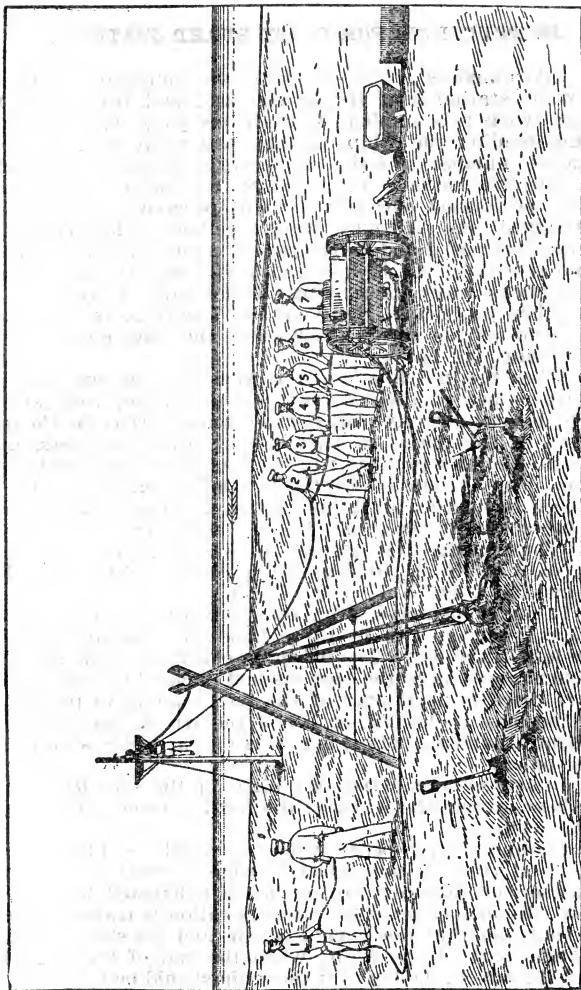

FIG. 14.—Man weather whip—haul ashore.
382. (1) **Man weather whip—Haul ashore.**—Nos. 3, 4, 5, 6, and 7 shift to the weather part of the whip and haul ashore, the officer in charge superintending and assisting when necessary. (See fig. 14.)
(2) The officer in charge and No. 7 assist the rescued persons out of the buoy when they reach the shore.